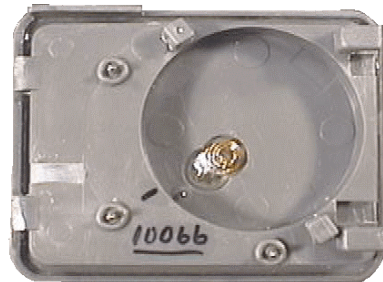

Figure 3: Installing the battery in the PID
5. **Install the Battery:** Remove the PID , baseplate, one strap, one locking bar, one locking pin and the battery from the case. Simply place the battery into the PID battery well so that the alignment mark on the battery lines up with the alignment mark on the PID. Rotate the battery counterclockwise until the tabs on the battery slide under the two lock down posts. (See Figure 3 : installing the battery in the PID).